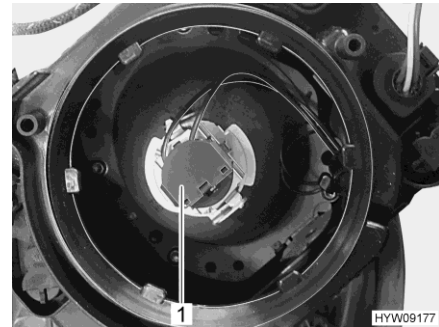

Fig. 231 Bulb (low beam/main beam)
- Turn the holder (Fig. 231,1) with the lamp in an anticlockwise direction and take it out of the lamp housing.
- Insert the holder (Fig. 231,1) with bulb into the lamp housing and tighten in a clockwise direction. The holder engages audibly.